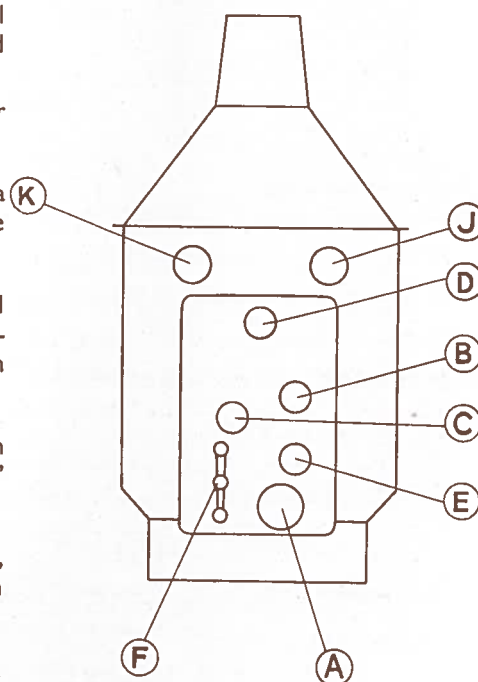

Fig. 3
**(A) Carbon Feed (Fig. 3).**—This consists of double knurled fibre hand wheels, frictionally coupled by spring pressure so that when operated, both carbon heads are fed together. By rotating the front and holding the rear hand wheel, the front carbon head can be moved independently, likewise by rotating the rear and holding the front hand wheel the back carbon head can be moved independently.
**B. and C. Rear Carbon Adjustments (Fig. 3).**—B. This comprises a rack and pinion motion, operated by knurled fibre hand wheel, and permits raising and lowering of the rear carbon.
**D. and E. Mirror Adjustment (Fig. 3).**—D. Horizontal axial motion is transmitted by means of hand wheel operated screwed shaft.
**F. Mirror Focussing (Fig. 3).**—A Ball Crank Handle, operating a screwed shaft traverses the complete mirror assembly along the horizontal centre line of the lantern.
**J. Blower Control (Fig. 3).**—Consisting of 5-amp. tumbler switch.
**K. Inspection Lamp Control (Fig. 3).**—Consisting of 5-amp. tumbler switch.